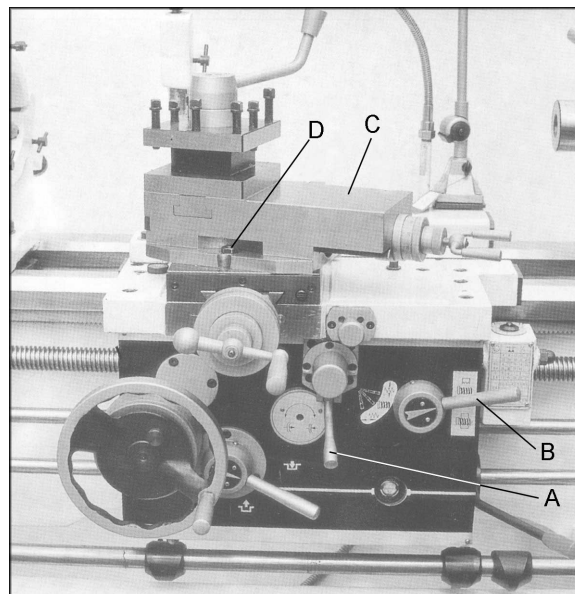

Figure 17
4. Set selector lever (A, Figure 17) to correct position (neutral).
5. Engage the half nut lever (B, Figure 17).